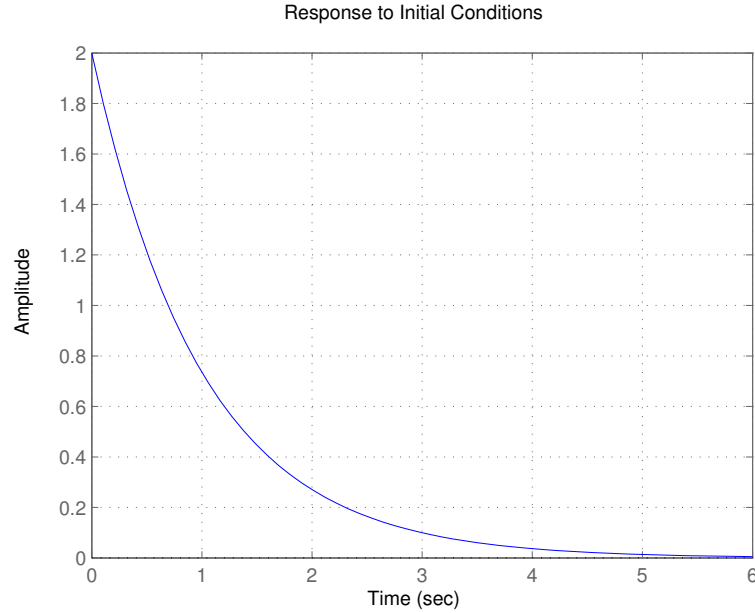

Figure 8.2 Response to initial conditions
b. See Figure 8.2 and Matlab code below